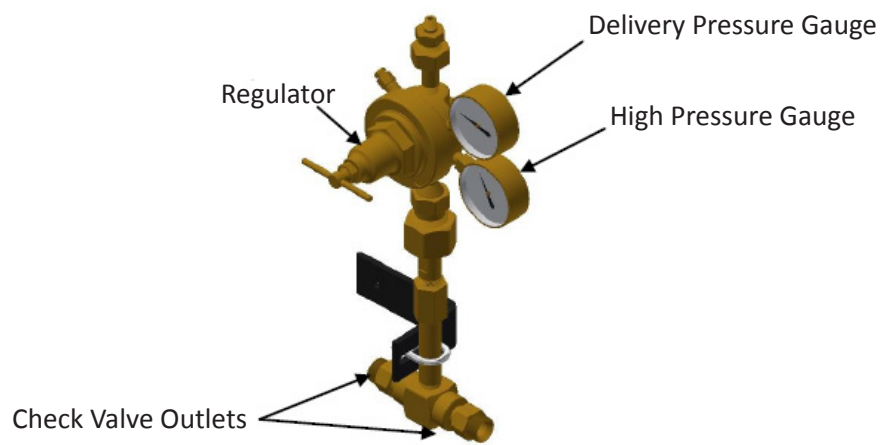

Figure 5 – Manifold Outlet
1. *Slowly* open the cylinder valve (turn counter-clockwise to open). The high pressure gauge will show the pressure of the cylinder. (Figure 5)